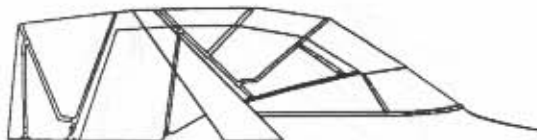

Figure L5: Side View of Typical Camper Installation
2. Attach camper bows to deck hinge. Unroll canvas and attach forward edge of canvas to suntop zipper. If an arch is installed, attach or zip camper top to the arch. Refer to Figure L5.